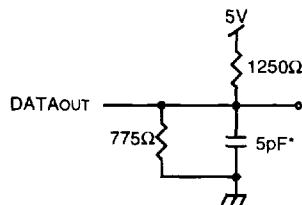

Figure 2. Output Load (for t_{LZ}, t_{HZ}, t_{wZ}, t_{ow})
6. This parameter is determined by device characterization, but is not production tested. Transition is measured $\pm 200\text{mV}$ from steady state with the Output Test Load (Figure 2).